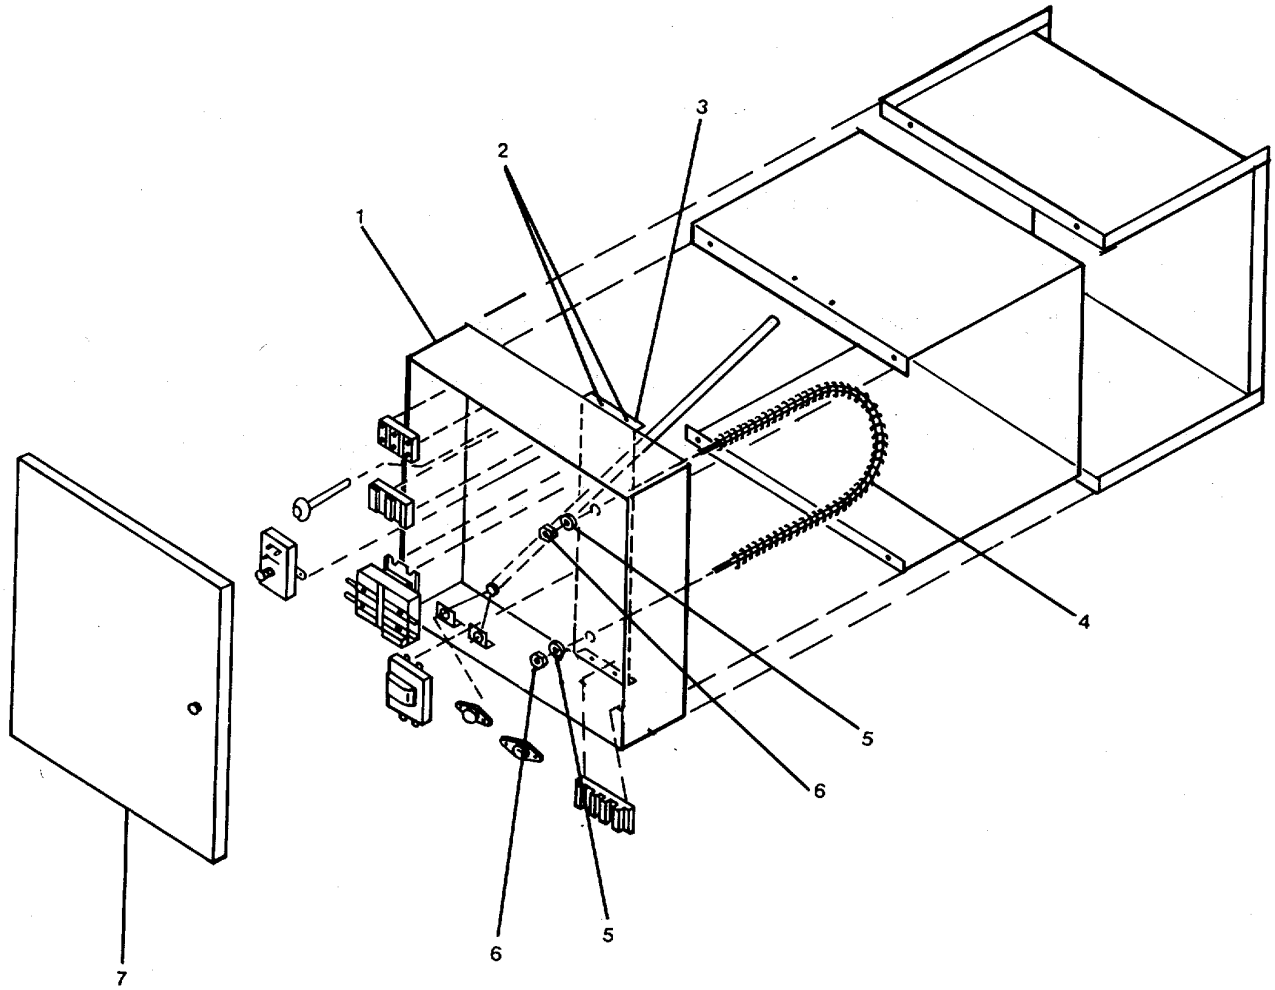

Figure 2-10. Ducts Heater (Ducts #4 through #7; #9 through #12; #12A, #14, #16, and #17).
- (10) Secure heating element (4) with terminal washers (5) and screws (6).
- (11) Close heater front cover (7).
- (12) Operational check:
**2-20. Repair Heater, Duct Type, Stationary (Ducts #4 through #7), (Ducts #9 through #12) and (Ducts #12A, #14, #16, and #17). (FIGURE 2-10)**